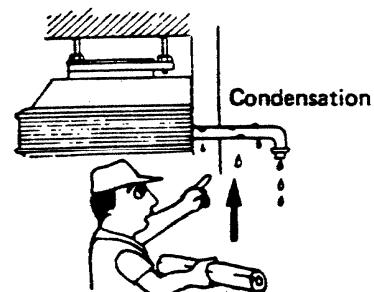

Fig. 18
c) If the drain pipe will run in the room, insulate the pipe with an insulation material* so that chilled condensation should not damage furniture or floors. Fig. 18